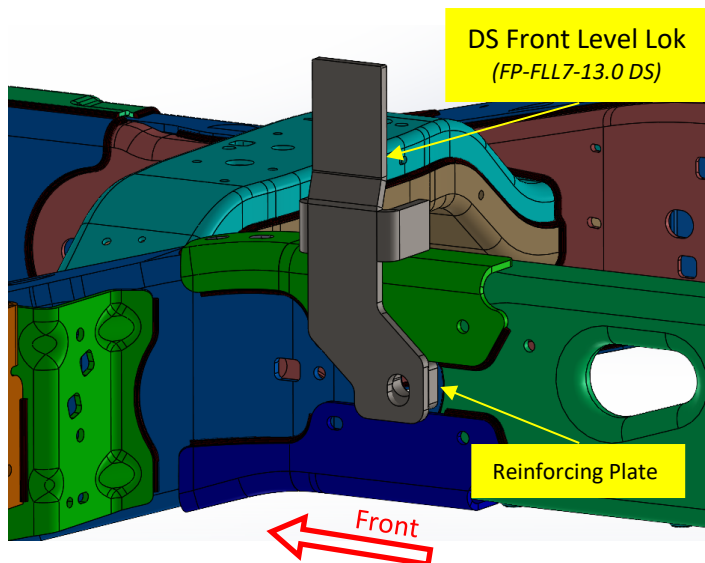

Figure 1
1. On the driver side of the frame, locate and remove the existing hose bracket from the hole between the fish plates. Place one (1) 7/8" x 2-1/2" bolt through the hole in driver side front level lok (**Item 1**). Thread one (1) reinforcing plate (**Item 3**) (**SEE NOTE BELOW**) onto bolt. Place the broke tabs of the level lok on top of the fish plate and reinforcing plate between the fish plates. Thread the bolt through the existing frame hole in between the fish plates. On the inside of the frame, thread the new hose bracket (**Item 4**) onto the bolt with the small hole in the bracket facing forward. Fasten level lok and hose bracket with one (1) 7/8" nyloc nut. Reattach the steel vehicle lines to the new hose bracket. Figures 1 & 2